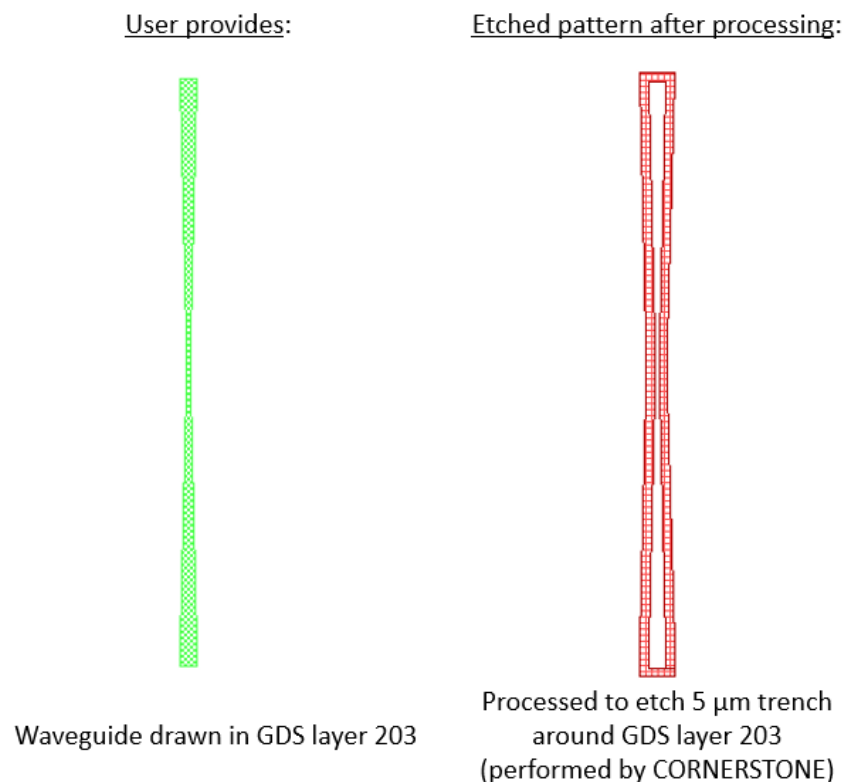

Figure 1 - Description of GDS Layer 203 processing.
- Silicon Nitride Etch 1: 300 nm full etch to BOX – GDS Layer 203 (Light field): Drawn objects on this layer will be protected from the silicon nitride etch. Users should draw the waveguides and any other features to remain following the full silicon nitride etching. During fracturing processing, this will be translated into a pattern that defines 5  $\mu\text{m}$  wide trenches on either side of the waveguides drawn in GDS layer 203 (see Figure 1).